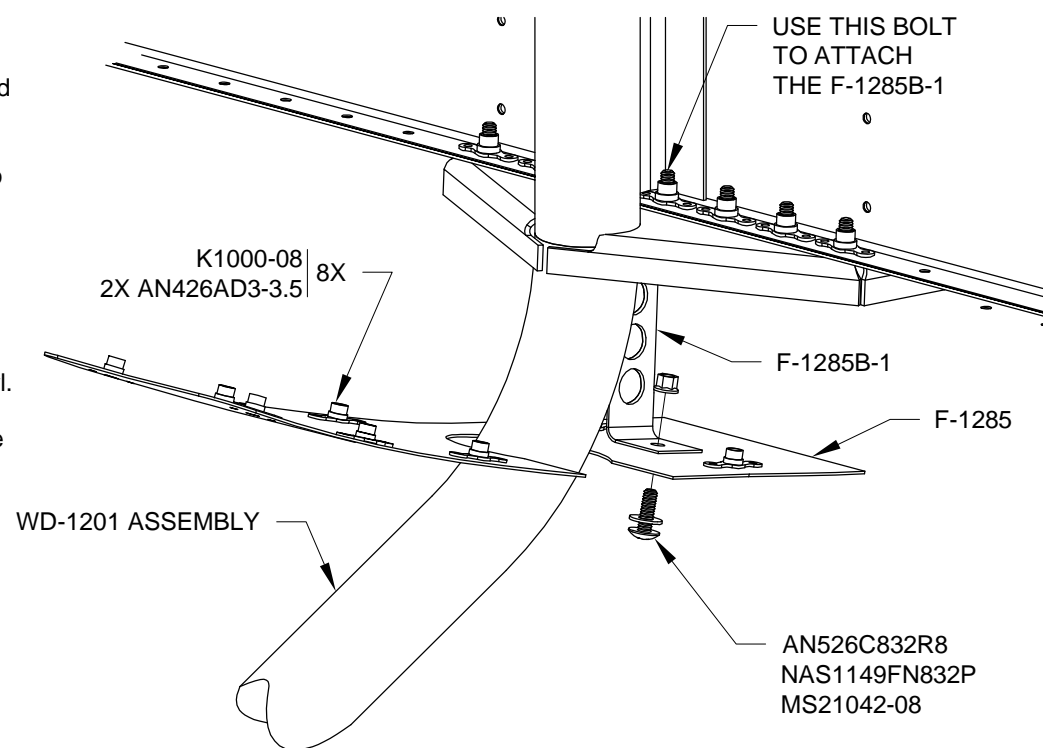

FIGURE 2: CLOSEOUT BRACKET ATTACH
Step 2: Remove the middle nose gear attach bolt indicated in Figure 2.
Step 3: Slip the middle nose gear attach bolt through the F-1285B-1 Cowl Close-out Bracket so that the bracket is perpendicular to the bottom of the aircraft with the angled flange sweeping up towards the front. See Figure 2.
Attach the cowl bottom close-out to the F-1285B-1 Cowl Close-out Bracket using the hardware called out in Figure 2. Align the edges of the cowl bottom close-out with the edges of the slot in the bottom of the bottom cowl. Clamp the cowl bottom close-out to the bottom cowl.
Step 6: Remove the F-1285 Cowl Bottom Close-out. Dimple the nutplate rivet holes in the cowl bottom close-out and the rivet holes in the corresponding nutplates. See Figure 2. Rivet the nutplates to the cowl bottom close-out as shown in Figure 2.